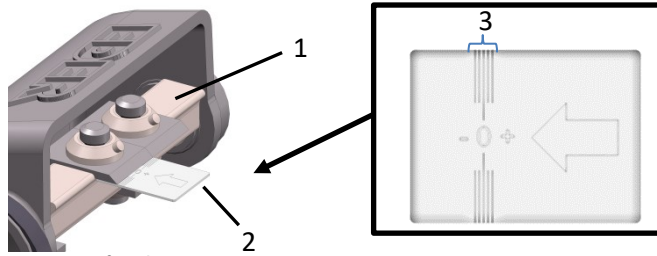

Fig. 7: Knife adjustment
- > Push the setting gauge (2 – Fig. 7) under the knife in the direction of the arrow up to the peeling cylinder (1 – Fig. 7).
Attention: The cutting edge of the knife must be within the marked area (3 – Fig.7).